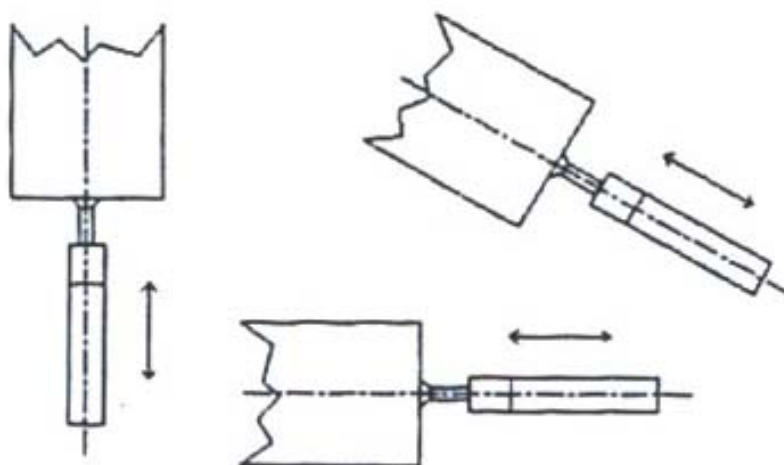

Fig. 2
- 2) When make the measurement, the SENSING HEAD along the adapter has to be on a line with measuring object. (ref. Fig. 2)